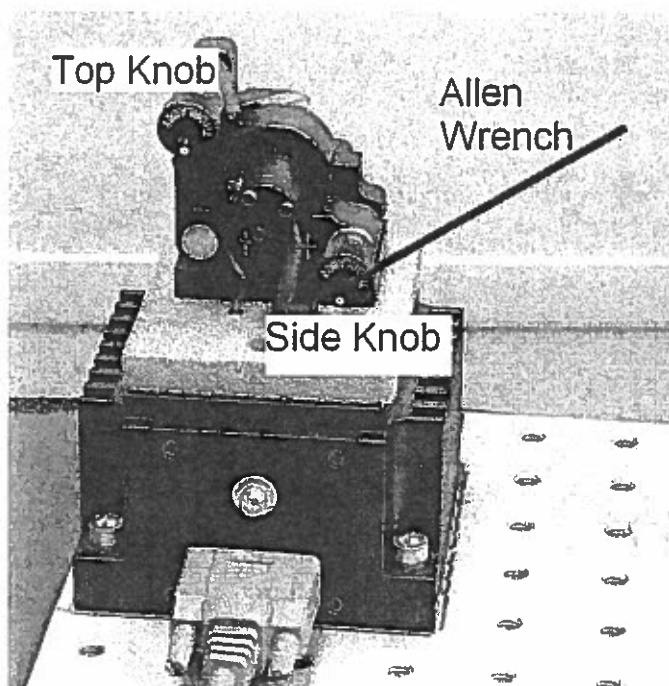

Figure 2: Picture showing TOP and SIDE Knobs used to align grating. Allen wrench is shown in Side Knob.
*Operating note : The TOP and SIDE knobs are used to align the grating with respect to the diode. The lines on the grating run vertically. Figure 2 shows the diode laser with the cover off and the 5/64" Allen wrench placed in the SIDE knob. The first order diffraction from the grating is directed back into the diode. The zero order reflection from the grating is the light you observe leaving the laser. The TOP knob rotates the grating about an axis that is parallel to the table top. Turning the TOP knob changes the vertical angle of the light diffracted from the grating. But to first order it does not change the wavelength of the light that is diffracted back into the laser. The SIDE knob rotates the grating about an axis that is perpendicular to the table top. Turning the SIDE knob does change the wavelength of the light that is diffracted back into the diode.*